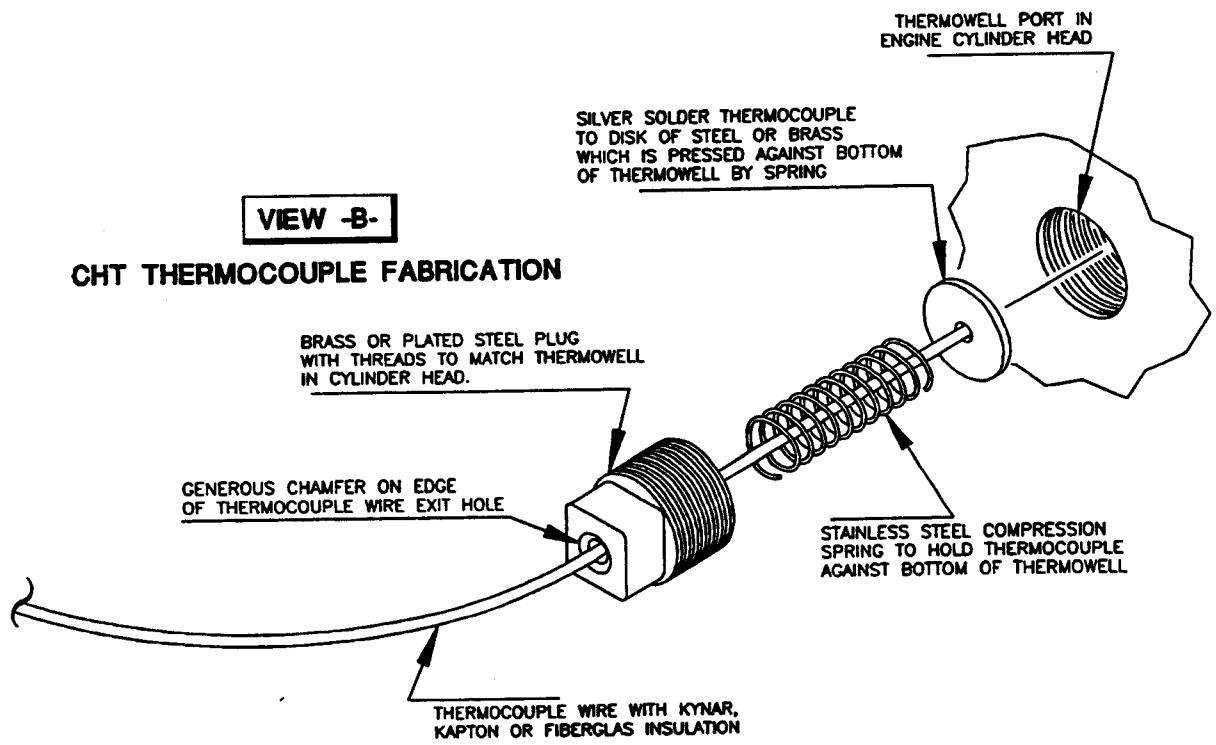

Figure 14-15. "Thermowells" for Temperature Sensing.
plug the proper size to fit your engine's oil or water temp sensor opening. Good thermal contact of your temperature sensor (thermistor, thermocouple or solid state) with the fluid being monitored is essential. The usual technique calls for fabricating a "thermowell." A thermowell is illustrated in Figure 14-15. Actually, about every temperature transducer (or sender) is a form of thermowell. The purposes of a thermowell are (1) to extend into a liquid far enough to measure its temperature in the main fluid flow and (2) get as much thermal isolation as possible from the surrounding environment (crankcase, etc.). The thermowell I like to build is illustrated in Figure 14-15. It is fabricated from a brass plug through which I drill a 1/4" hole. A piece of thin-wall, brass tubing is soldered into the plug. The length of the tubing is that which is judged to place the sensor into free flow of fluid inside the engine. The sensor end is squeezed shut and soldered. The sensor is then cemented or soldered into the bottom of the "well." Silicon sealant around the wire as it exits the plug is a good idea to prevent damaging the wire by pressing against the edge of the hole. Sometimes, a close wound spring is cemented into place about the wire to provide radius-relief and reduce stress on wire when tugged.